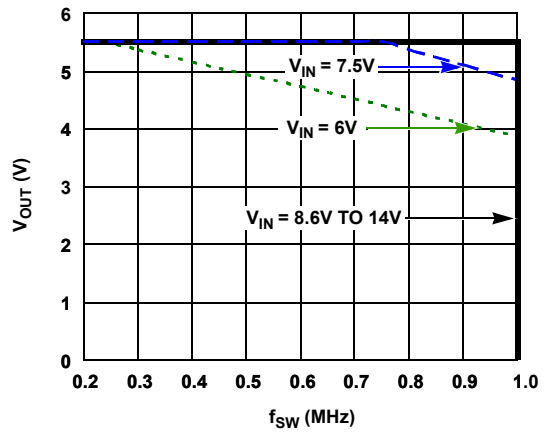

FIGURE 8. SAFE OPERATING AREA,  $T_J \leq +125^\circ\text{C}$
8. Refer to Safe Operating Area in Figure 8 and thermal design guidelines in AN2010.
10. Percentage of Full Scale (FS) with temperature compensation applied.